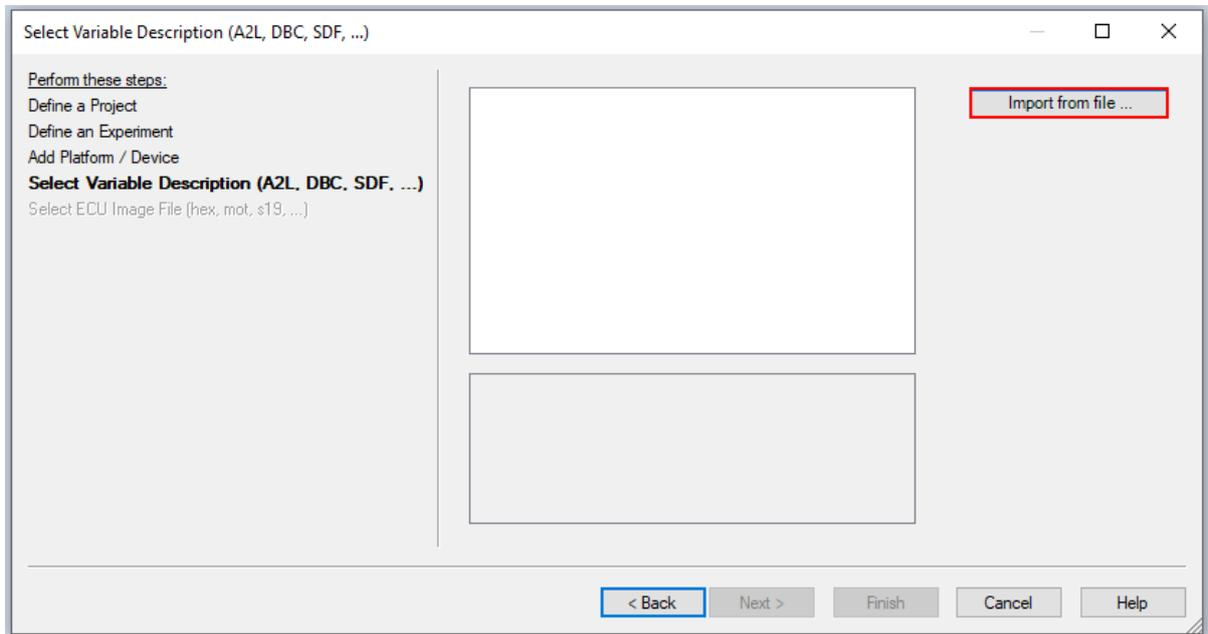
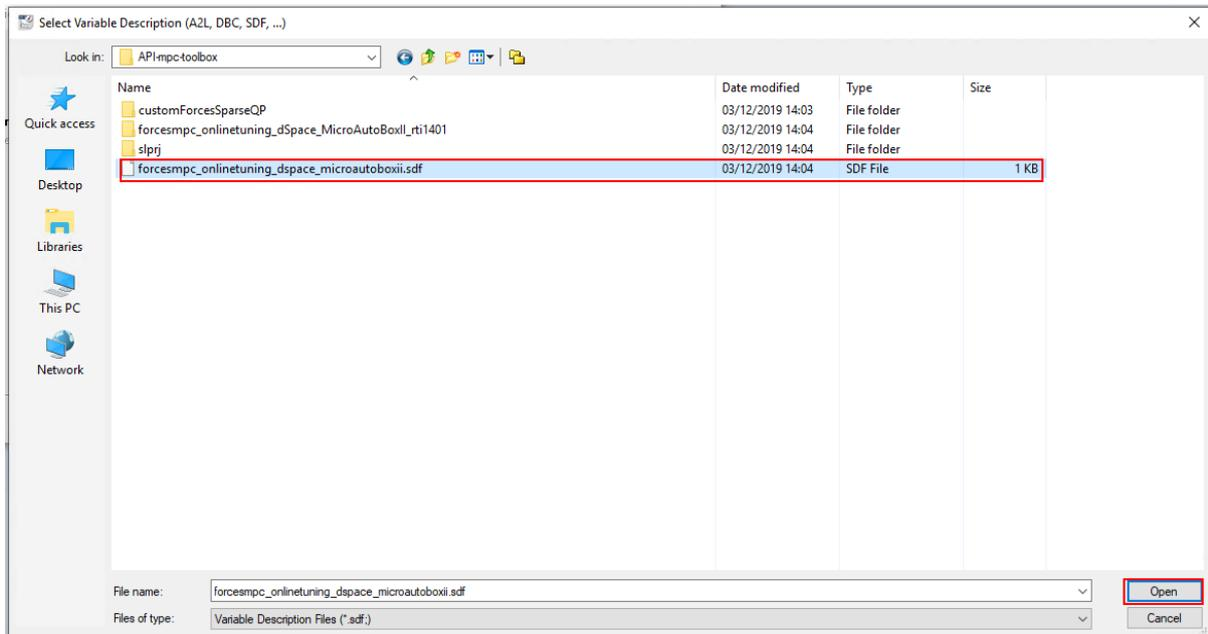

Figure 6.12: Import the variable description file
Figure 6.13: Select the sdf file with the variables description
- Import the variable description file `forcesmpc_onlinetuning_dSpace_MicroAutoBoxII.sdf` in order to have access to the model variables and see the results of the execution (see Figure 6.12 and Figure 6.13).